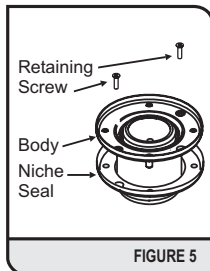

FIGURE 5
- Position the gear in the niche. Ensure there is no sand or grit on fitting sealing area. Fit the seal to the body aligning holes in niche seal with pins and screw holes. Gently push body and seal into niche aligning countersunk screw lug holes with retaining lugs. Secure the body with the countersunk retaining screws supplied (fig 5).